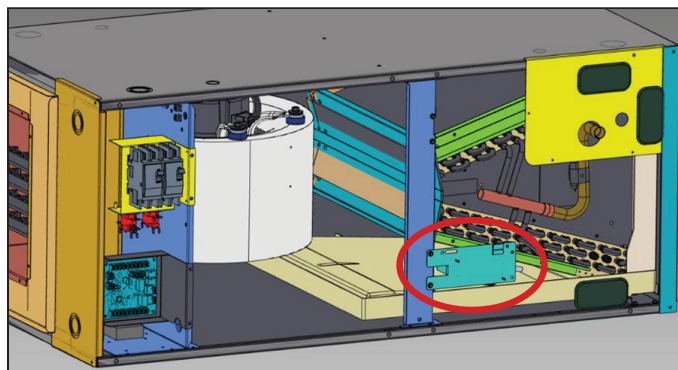

FIGURE 26
- 3 - After coil assembly and center support bracket are reinstalled into unit, with air handler unit panels removed, install sensor bracket assembly to the center support bracket by lining up the holes as shown in FIGURE 26.